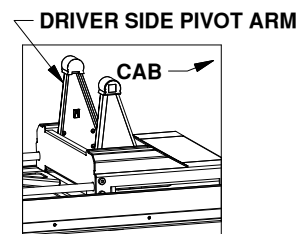
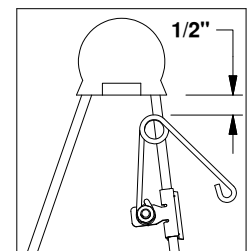

Figure D3: Base view.
Figure D4: Driver side pivot arm.
- 2. Attach kit.** Locate the flange which will be closest to the truck cab on the driver side pivot arm, see Figure D3. The clip should be placed so that when the spring's coil is in line with the edge of the arm there will be 1/2" of clearance between the bottom of the rubber bumper and the top of the spring, see Figure D4. Drive the clip securely onto the flange with a hammer.